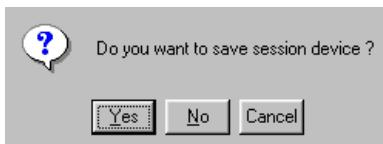

Figure 12: Save Session dialog box
12. Click **Yes**. A message box displays (Figure 12).